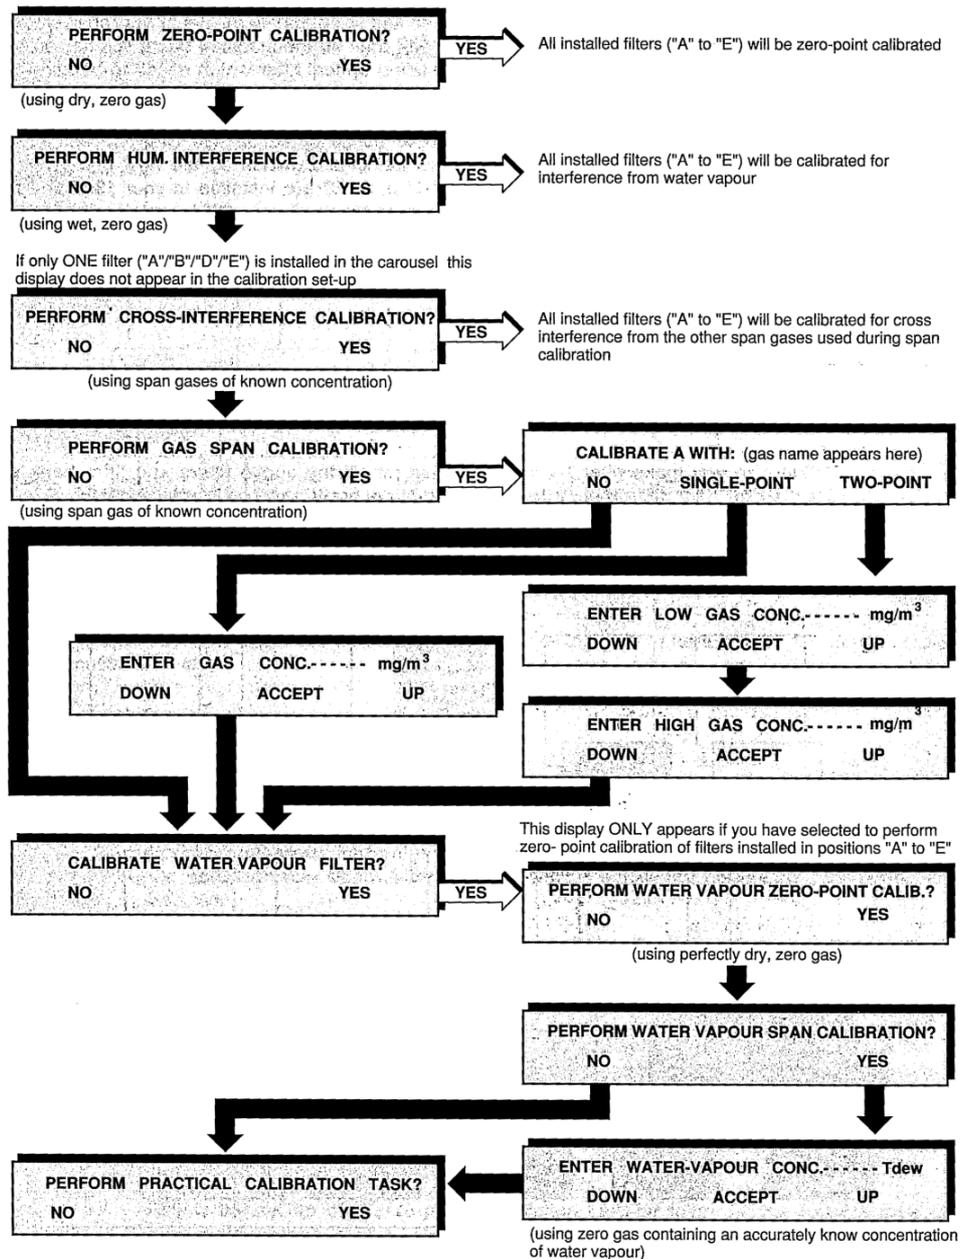
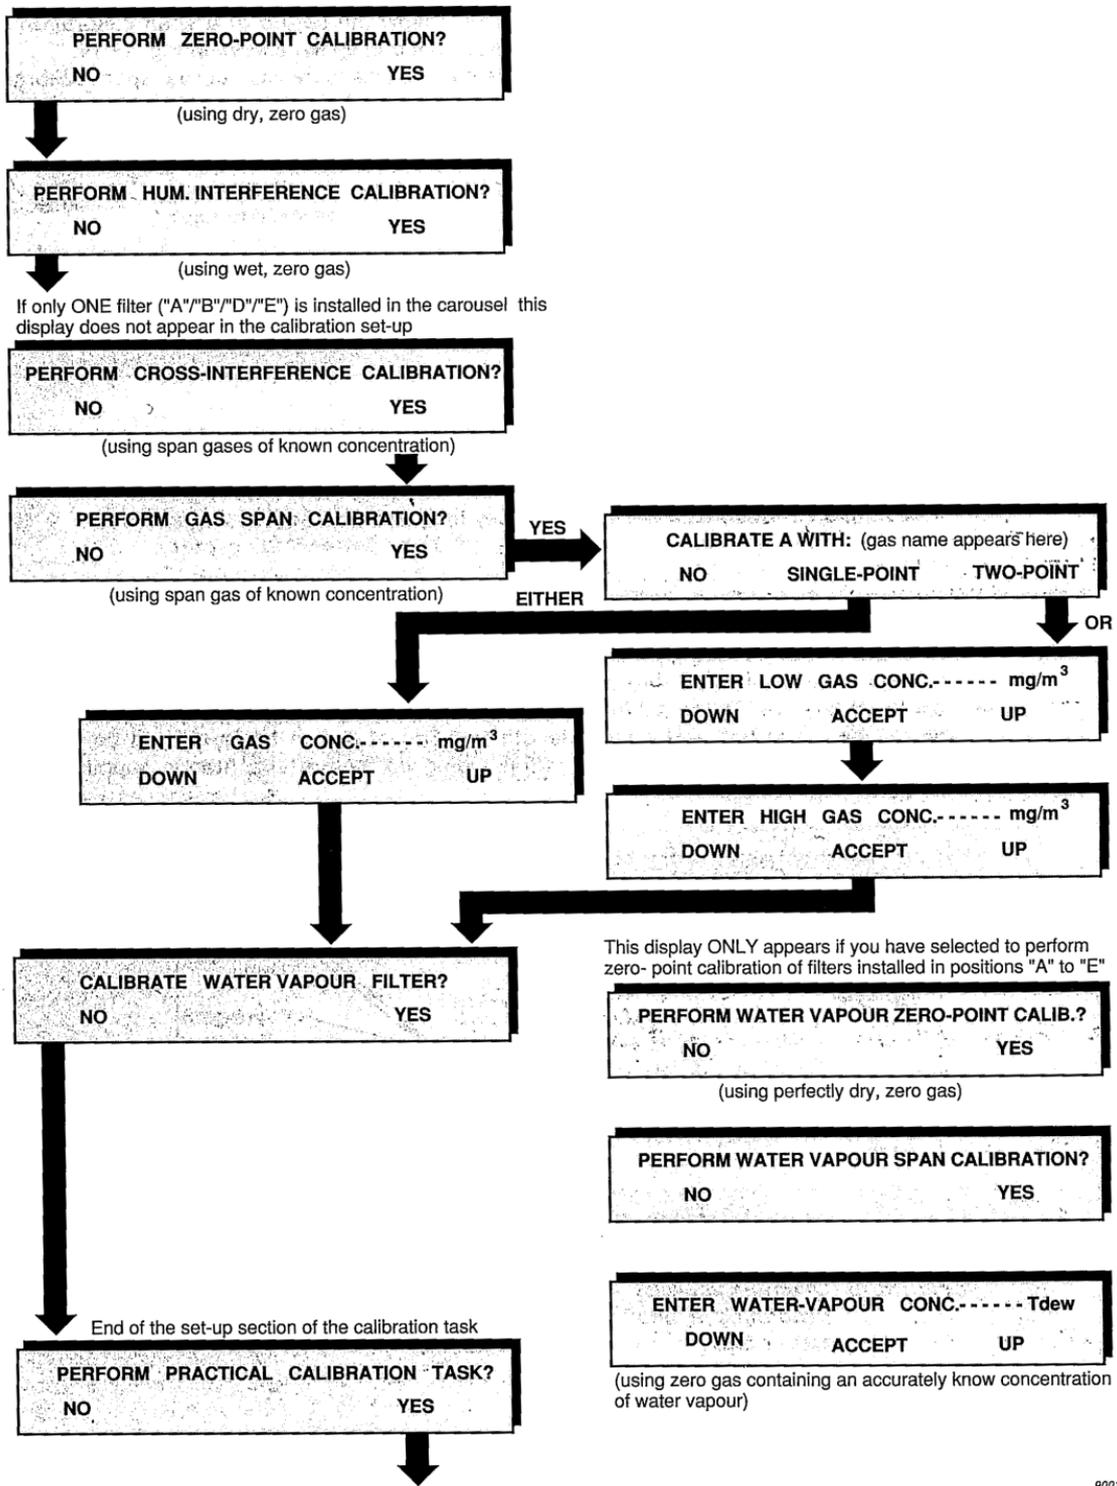

Figure 36. Schematic diagram showing the general calibration task Set-up “Tree”. (7)
Figure 37. Schematic diagram showing how to set-up a combined cross-interference and span calibration task. (7)
The description of different types of calibration tasks can be found in sections 4.3 *Zero point (N2)*, 4.4 *Humidity calibration (H2O)* and 4.5 *Gas span calibration*. Here only practical information about setting-up different calibration tasks in *Brüel & Kjær 1302 Monitor* will be given. Below on Figure 36 can be found a general schematic diagram showing the calibration task Set-up “Tree”. When setting-up a calibration task in the Monitor you should follow the black arrows according to the type of calibration you want to perform. Exemplary schematic diagram showing how to set-up a combined cross-interference and span calibration task is shown on Figure 37. Additional schemes, if needed, can be found in *Instruction Manual (7)* in chapter 16 *Calibration of the optical filters*.